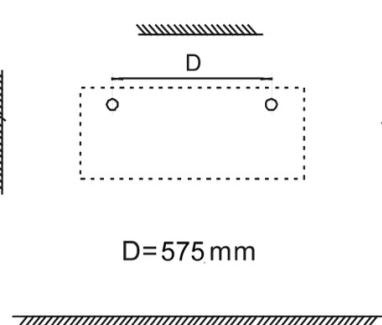

Fig.2
2. Make two suitable holes of the size of the fisher ø 8 mm in the wall. (Fig. 2) – $d = 575$ mm